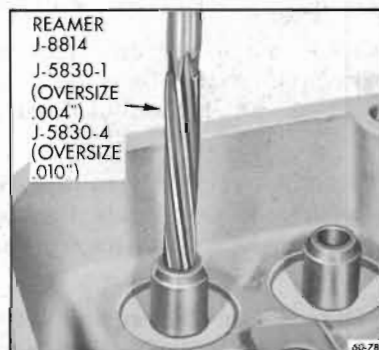

Figure 60-78—Reaming Valve Guide
8. If valve stem has too much clearance in its guide, the guide should be reamed to .004" oversize using J-5830-1. The Parts Department stocks .004" oversize valves for replacement purposes. See Figure 60-78.